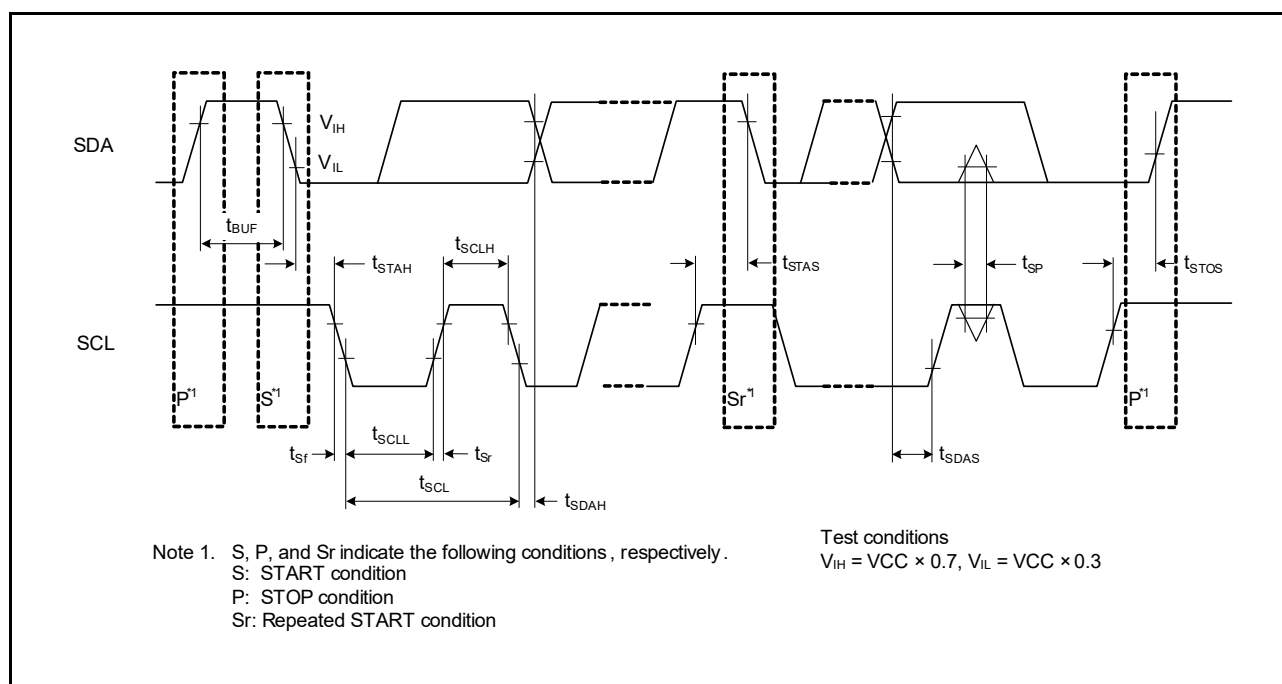

Figure 32.35 RIIC Bus Interface Input/Output Timing and Simple I2C Bus Interface Input/Output Timing
| RIIC(Standard mode, SMBus) | SCL cycle time                      | t SCL  | 6 (12) × t IICcyc + 1300 | —                           | ns   | Figure 32.35    |
| RIIC(Fast mode)            | SCL cycle time                      | t SCL  | 6 (12) × t IICcyc + 600  | —                           | ns   | Figure 32.35    |
| Simple I 2 C(Standard mode) | SDA rise time                | t sr   | —    | 1000                     | ns   | Figure 32.35    |
| Simple I 2 C(Fast mode)     | SDA rise time                | t sr   | —    | 300                      | ns   | Figure 32.35    |